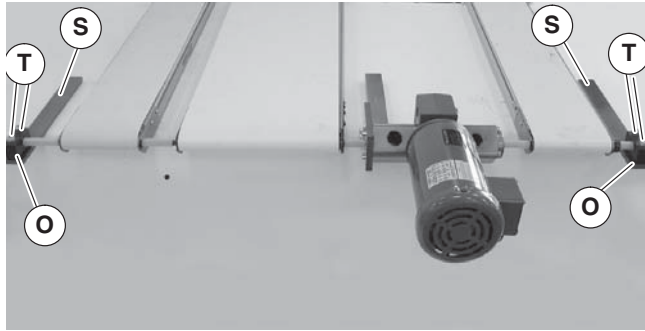

Figure 22
- Attach bearing blocks (Figure 22, item O) to bearing support bars (S) with screws (T). Tighten screws (T) to 35 ft-lb (45.5 Nm).